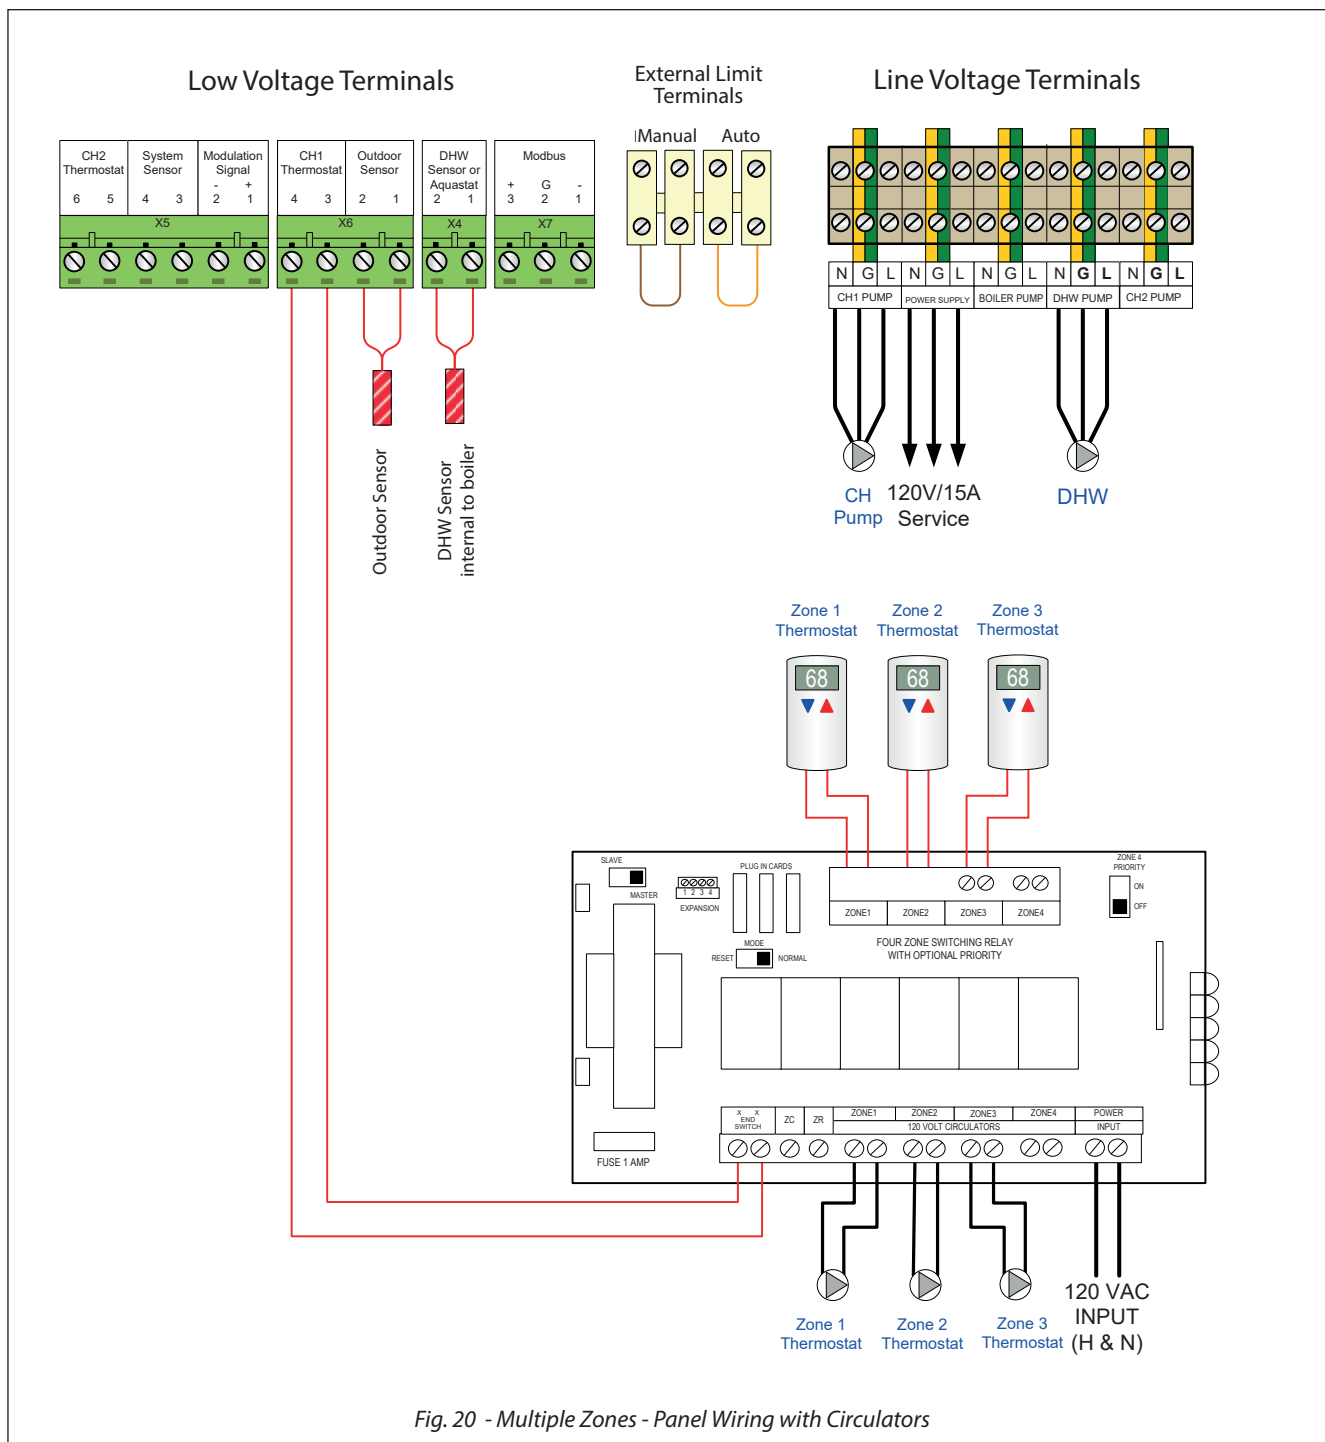
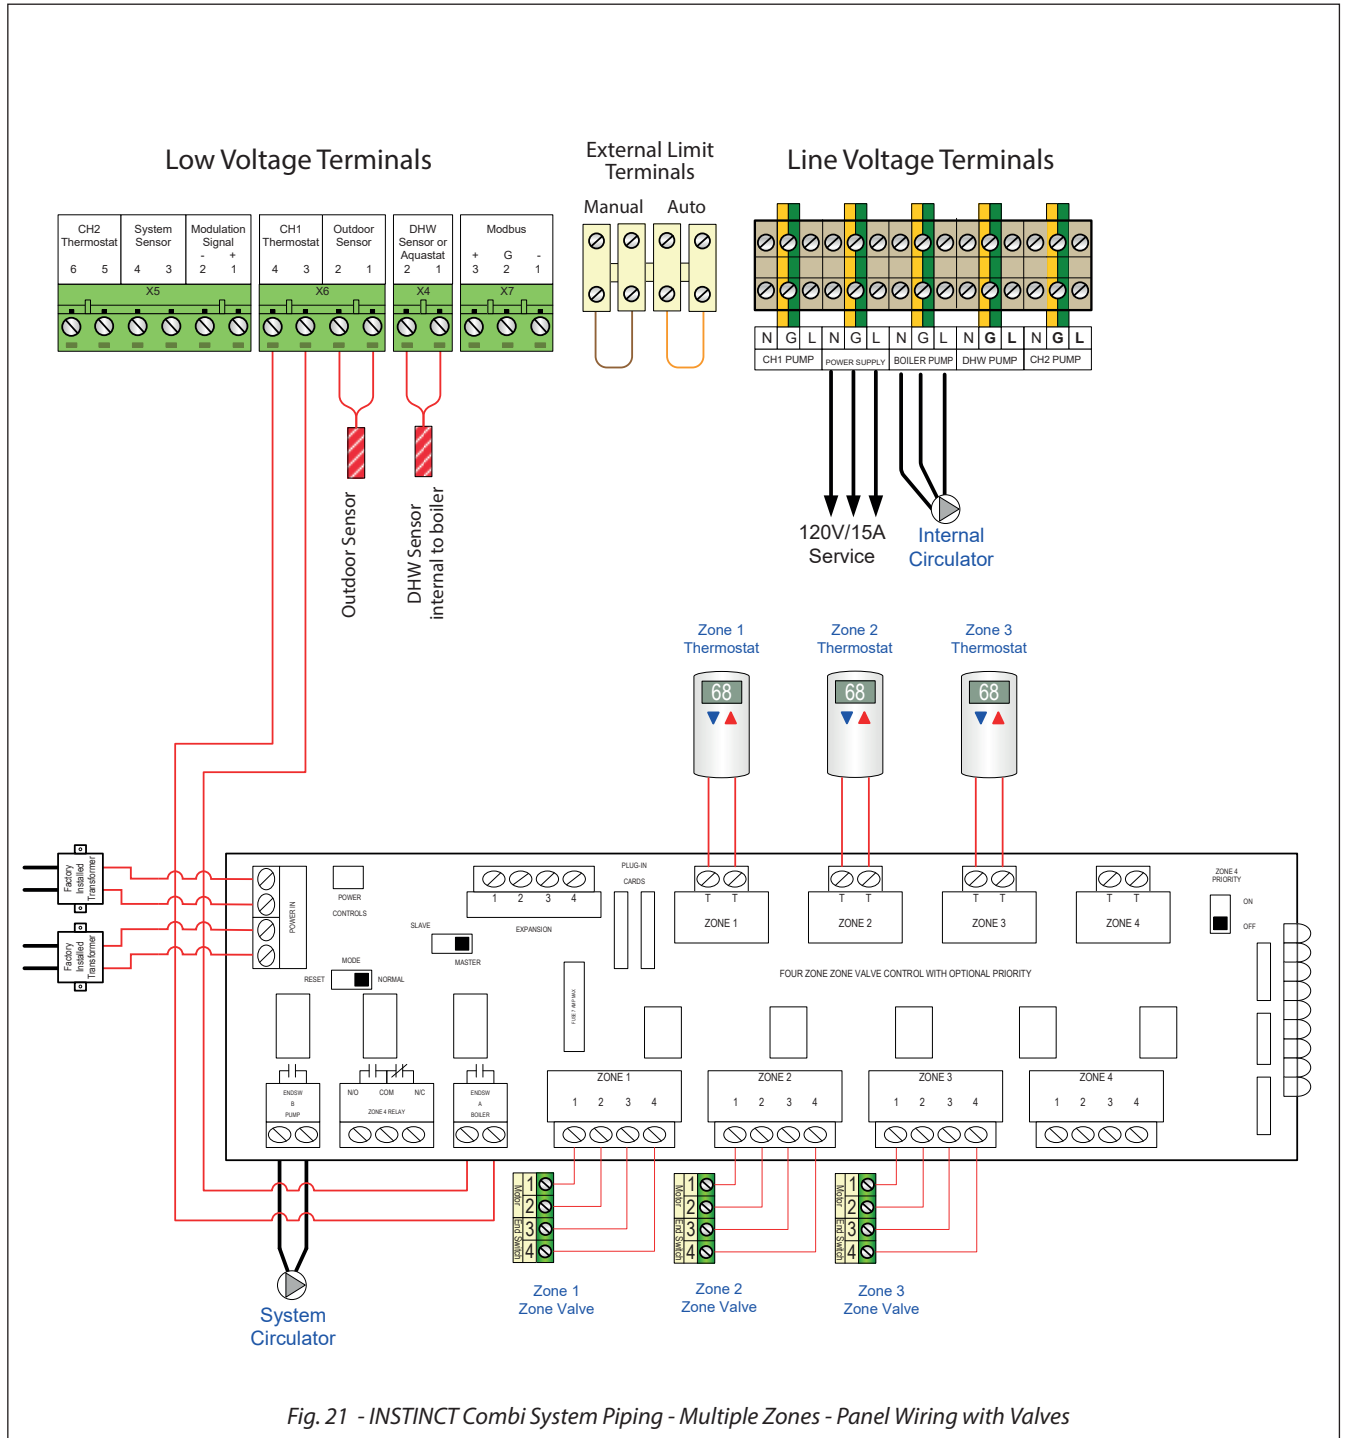

Fig. 20 - Multiple Zones - Panel Wiring with Circulators
Fig. 21 - INSTINCT Combi System Piping - Multiple Zones - Panel Wiring with Valves
1. The circulator connections used will depend on the systems piping layout. See *Fig. 20 through Fig. 21* for common system piping applications and associated circulator wiring. Consult the INSTINCT CTRLMax Control Supplement for additional options.